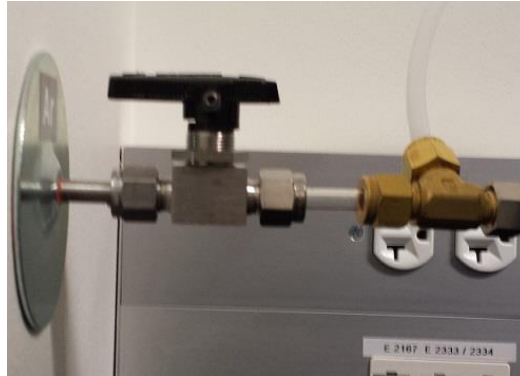

Figure 4a: Argon valve in the open position.
- To begin setup, open the valve for the Argon (**Figure 4a**) on the wall next to the Mill (Located on the left hand side of the instrument). One of the tools has a small leak and the tank will be depleted quickly if not closed after each use.